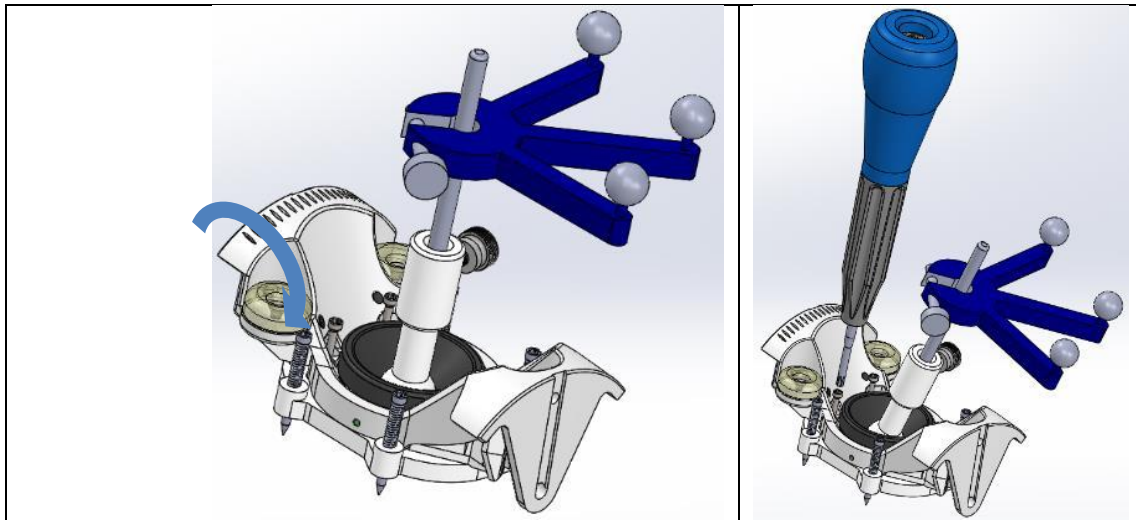

Figure 5: Entry Point Locator Stem being pivoted to make access to screws easier. Universal tracker is shown, but Probe may also be used.
7. Begin securing the Bone Screws to the skull through the scalp. Refer to **Section D** for detailed instructions for securing the Scalp Mount Base to the Skull. The Entry Point Locator stem may be moved out of the way for easier access to the screws. See **Figure 5**.
12. Remove the Probe Adapter from the Tower by loosening the Tower side thumb screw and pulling the Probe Adapter out of the Tower. **See Figure 5 (Left).**
13. Remove the Targeting Stem from the packaging tray and insert it into the SMARTFrame Array Tower until it bottoms out. Then, tighten the Tower side thumb screw to secure the Targeting Stem in the Tower. **See Figure 5 (Middle) and (Right).**